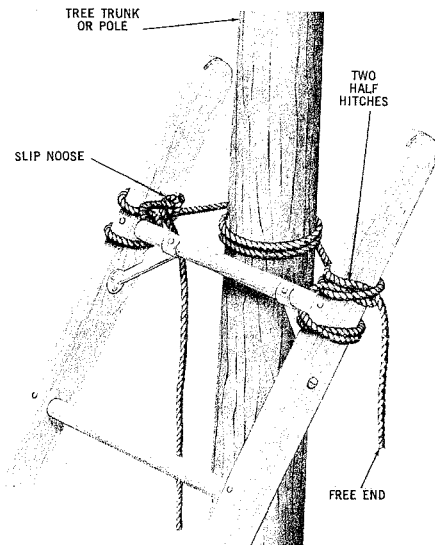

Fig. 7 — Ladder Lashed to Tree or Pole
6.08 When placing a ladder against a tree, select the tree trunk or its larger limbs for support. When it is necessary to place a ladder so the top rung rests against a tree trunk or similar object, a handline may be thrown or placed with a wire-raising tool or tree pruner handle over a tree limb, tied to the top rung of the ladder, and used to assist in raising the ladder. After the ladder has been placed, tie the free end of the handline to one of the lower rungs, thus holding the ladder until a more secure lashing is made. The ladder shall be lashed securely at one or two points in a manner which will prevent the ladder from twisting or sliding when the craftsman's weight is put on one side. The lashing can be made in the following manner with a second rope (Fig. 7).